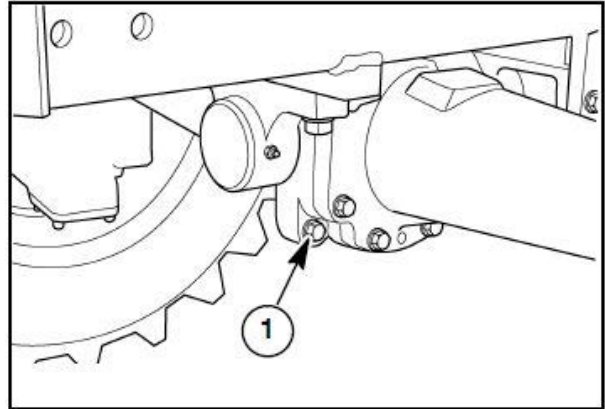

Figure 3-53
1. Place a suitable container beneath the oil plug. With the oil at normal operating temperature, drain the oil by removing the drain plug (1) in Figure 3-53. After the oil has drained, reinstall the drain plug and discard the used oil.